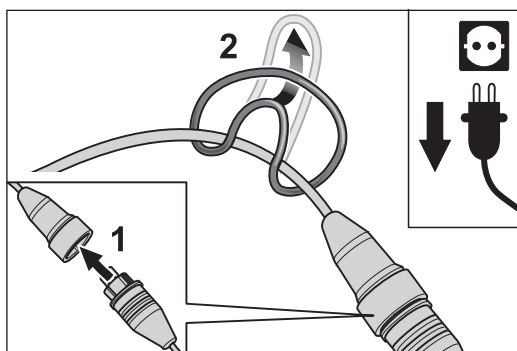
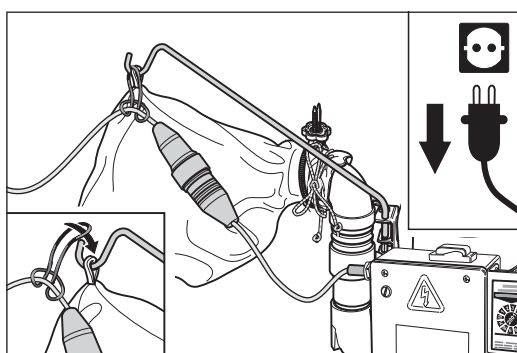

Fig. 33 Insert the plug of the motor cable into the coupling of the extension cable (1) and then fasten the strain relief ring to the extension cable (2).
Fig. 34 Run the extension cable past the right-hand side of the dust bag and then hook the strain relief ring into the cable support.
- 1 Insert the plug of the motor cable into the coupling of the extension cable (fig. 33, 1).
- 2 Fasten the strain relief ring to the extension cable (fig. 33, 2). Run the extension cable past the right-hand side of the dust bag and then hook the ring into the cable support (fig. 34).